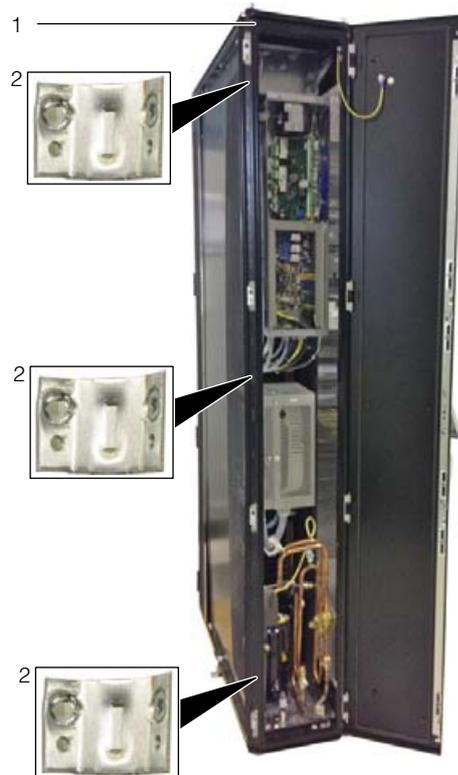

Fig. 19: LCP Rack DX – rear
- Using the corresponding assembly screws, fasten three baying connectors each (fig.19, item 2) onto the attachment points provided in the mounting strips on the front and rear of the LCP DX (fig.19, item 1).